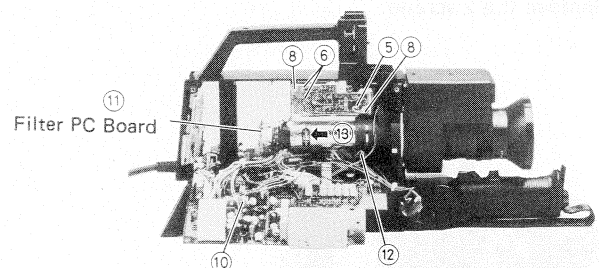

Fig. 23
5. Unsolder the target lead (Fig. 23).
6. Unsolder the bias light leads (Fig. 23).
8. Remove the preamplifier PC Board (Fig. 23).
10. Remove connector P307 (sync/deflection PC Board). (Fig. 23)
11. Remove the filter PC Board (Fig. 23).
12. Remove the screw which fixes the deflection coil (Fig. 23).
13. Remove the deflection coil in the direction of the arrow (Fig. 23).